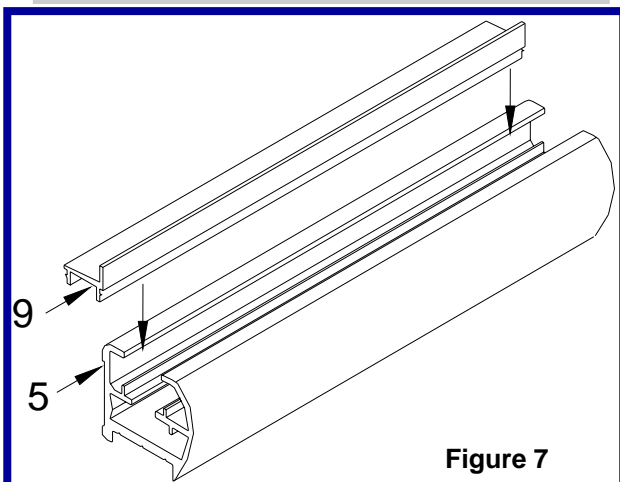

Figure 7
- With high side of thresholds (9) to outside, snap thresholds into header (4) & sill (5). **(See Figure 7)**